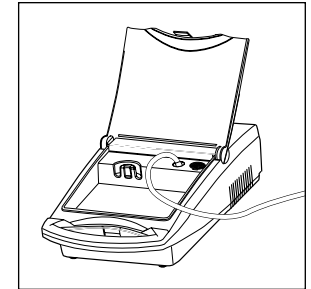
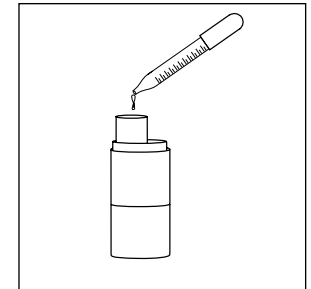

Figure 3
Figure 4
5. Connect one end of the nebulizer tubing to the compressor air-outlet connector (**Fig. 3**).
**NOTE**– During high-humidity weather conditions, condensation (water build up) can occur in the internal hose of the compressor. It is recommended that the compressor be turned on and allowed to run for two (2) minutes before the tubing is attached to the air-outlet connector.
6. Assemble clean nebulizer parts by placing baffle down in medication cup. Holding cup stationary, screw on nebulizer cap. Add prescribed medication through the opening on cap using a medicine dropper or pre-measured dose container (**Fig. 4**).